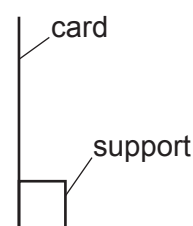

Fig. 3.3
- (v) Screen. A white sheet of stiff card approximately 15 cm × 15 cm, fixed to a wooden support is suitable. See Fig. 3.3.